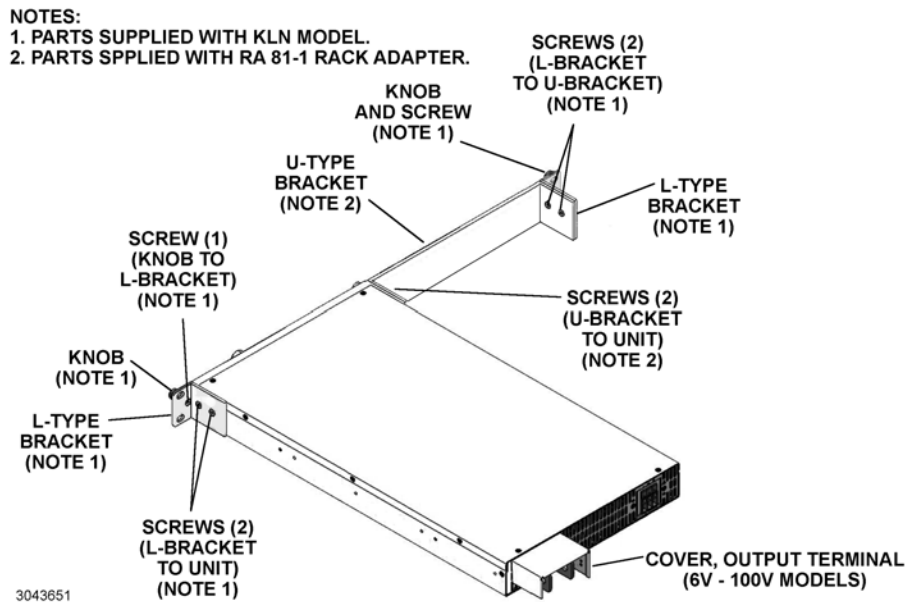

FIGURE 1. RA 81-1, INSTALLATION
Refer to Figure 1 and proceed as follows:
1. On one side of the unit, mount one L-type bracket with knob (supplied with unit) to the unit using two screws supplied with unit (see Figure 1).